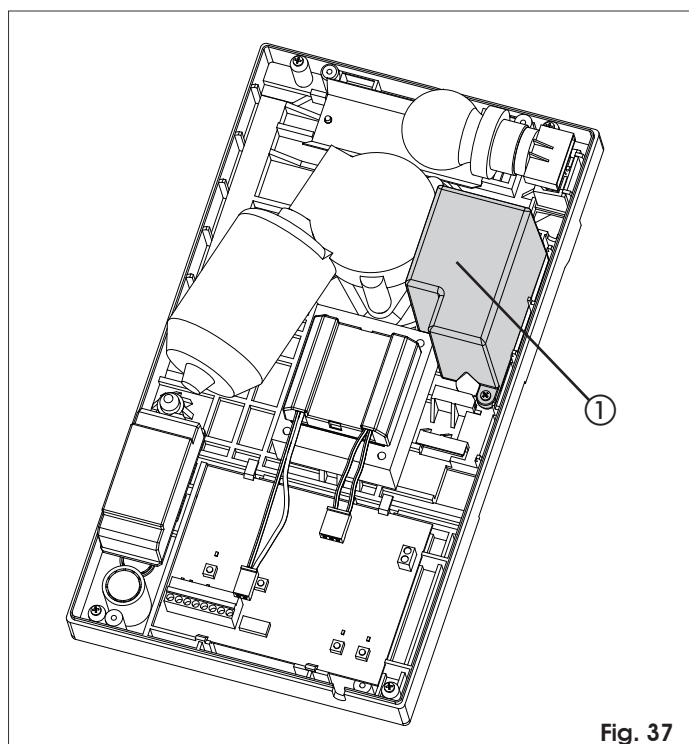

Fig. 37
The buffer battery kit will activate the automated system in the event of a power cut. The batteries are housed inside the operator (Fig. 37 ref. ①) fastened by a supplied screw.